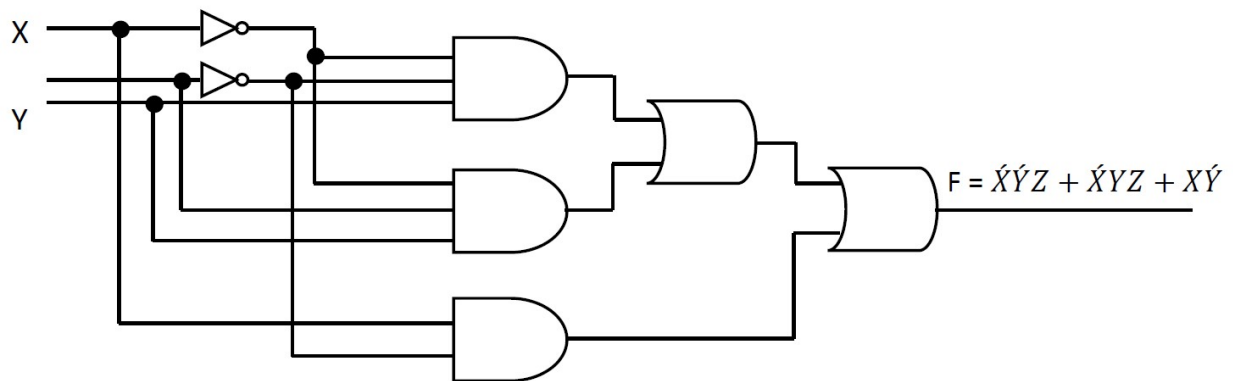

Figure 5.1: Logic diagram.
- 5.4.1 Place the components of the circuit shown in figure 5.1 on the trainer board and link the connections correctly.